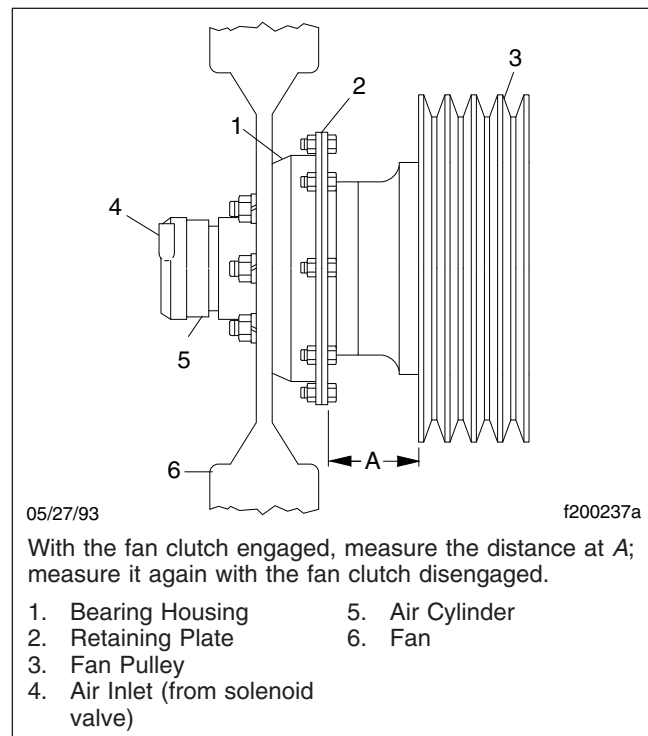

Fig. 3, Kysor K26RA Fan Clutch Lining Wear Check
2. Measure the distance from the back surface of the fan clutch retaining plate to the forward-most edge of the fan belt pulley. See Fig. 3, Ref. A.